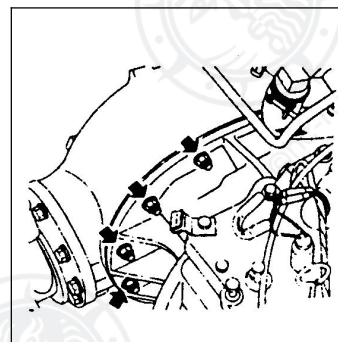

Fig.2-4-4
- 11) Remove nuts securing axle case to differential gear carrier. (see fig.2-4-4) .